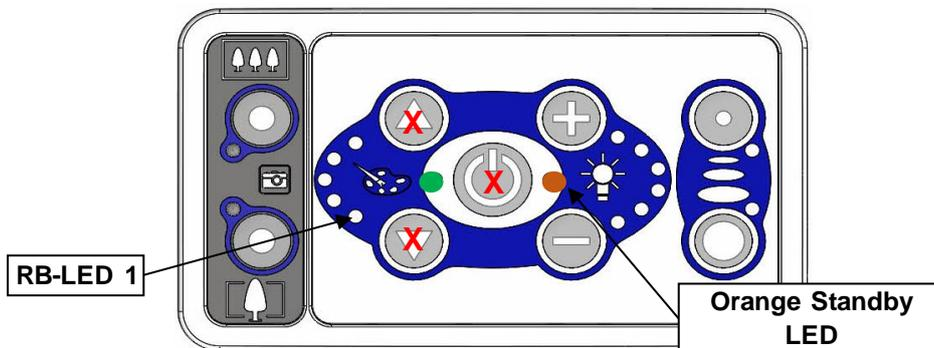

Figure 12 Lamp head (LH) keypad with camera function
2. To enter pair mode, on the Lamphed (LH) Keypad, press and hold the centre button then simultaneously press the upper 'Red Balance' button and the lower 'Red Balance' button marked **X** in Figure 12 above. Both centre LED's will then illuminate and the lower intensity LED (INT-LED 1).